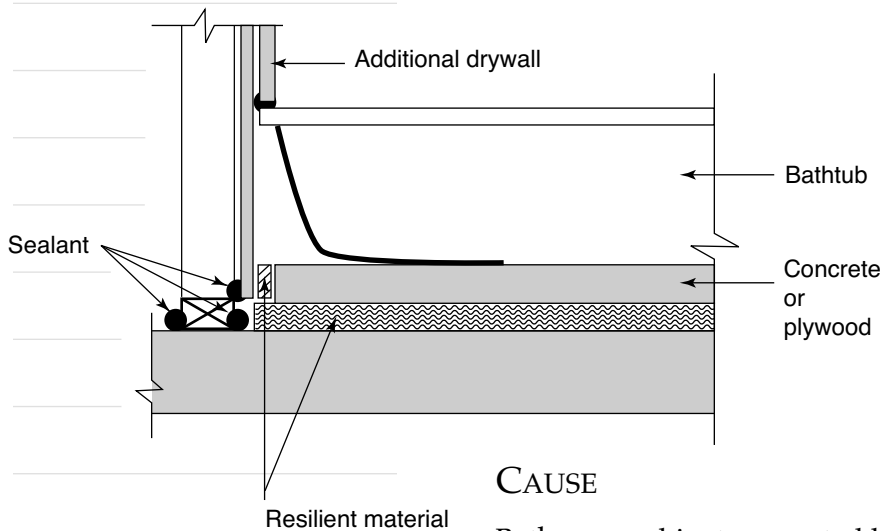

FIGURE 19
- ◆ Complete the sound-barrier wall before the bathtubs are installed. If necessary, install additional drywall with the tubs (see Figure 19).